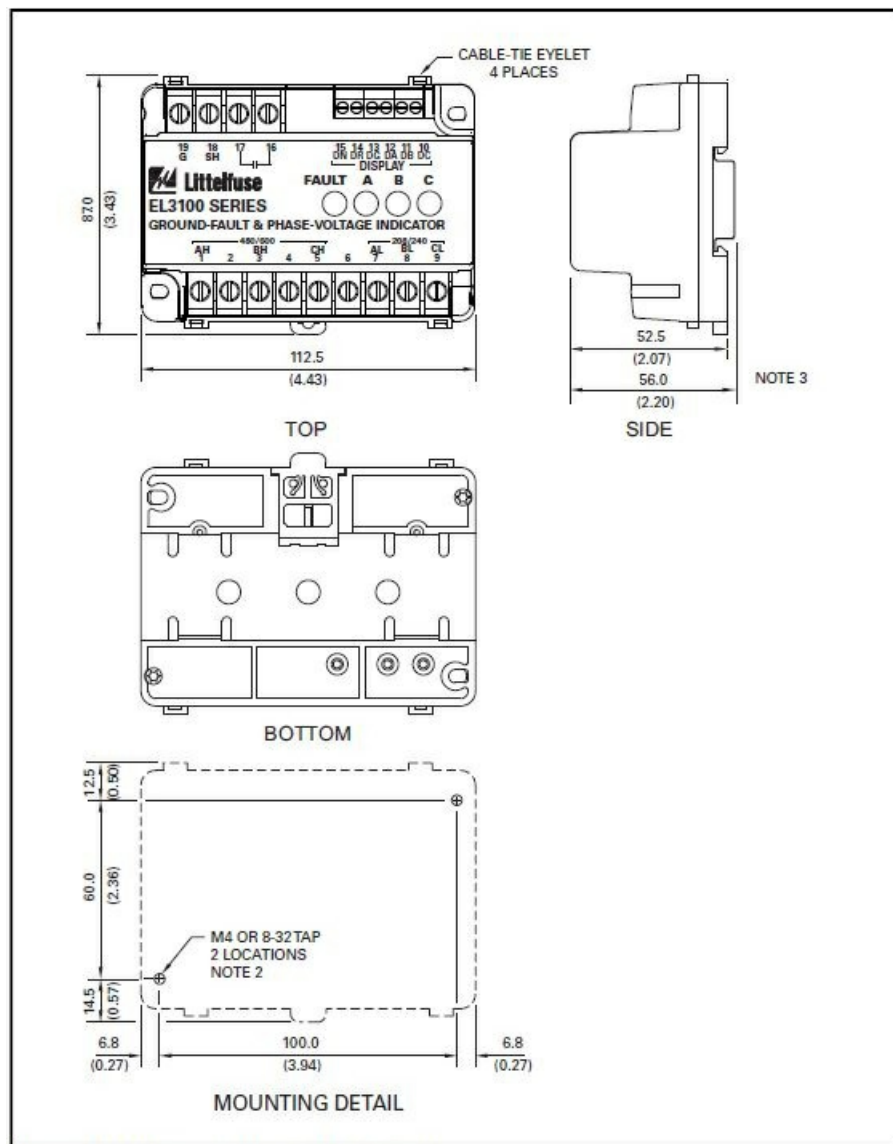
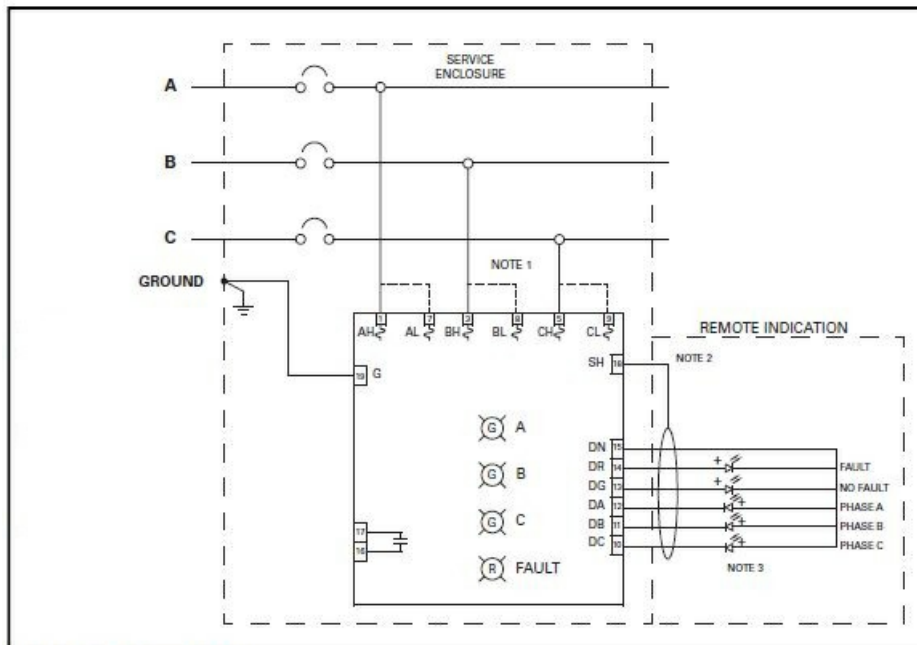

FIGURE 1. EL3100 Series Outline and Mounting Details.
FIGURE 2. Connection Diagram.
Terminals 10 through 15 are used for remote LED indication. High-intensity LEDs with no internal resistors are required. See Section 7 for ordering information. Fig. 2 illustrates a remote LED application where all LEDs are used.
Outline and mounting details of the EL3100 are shown in Fig. 1. For 208- or 240-Vac systems use terminals AL (7), BL (8), and CL (9). For systems above 240 Vac and up to 600 Vac, use terminals AH (1), BH (3), and CH (5). Connect bonding terminal (G) to ground. See Fig. 2. Terminals 2, 4, and 6 are not used.